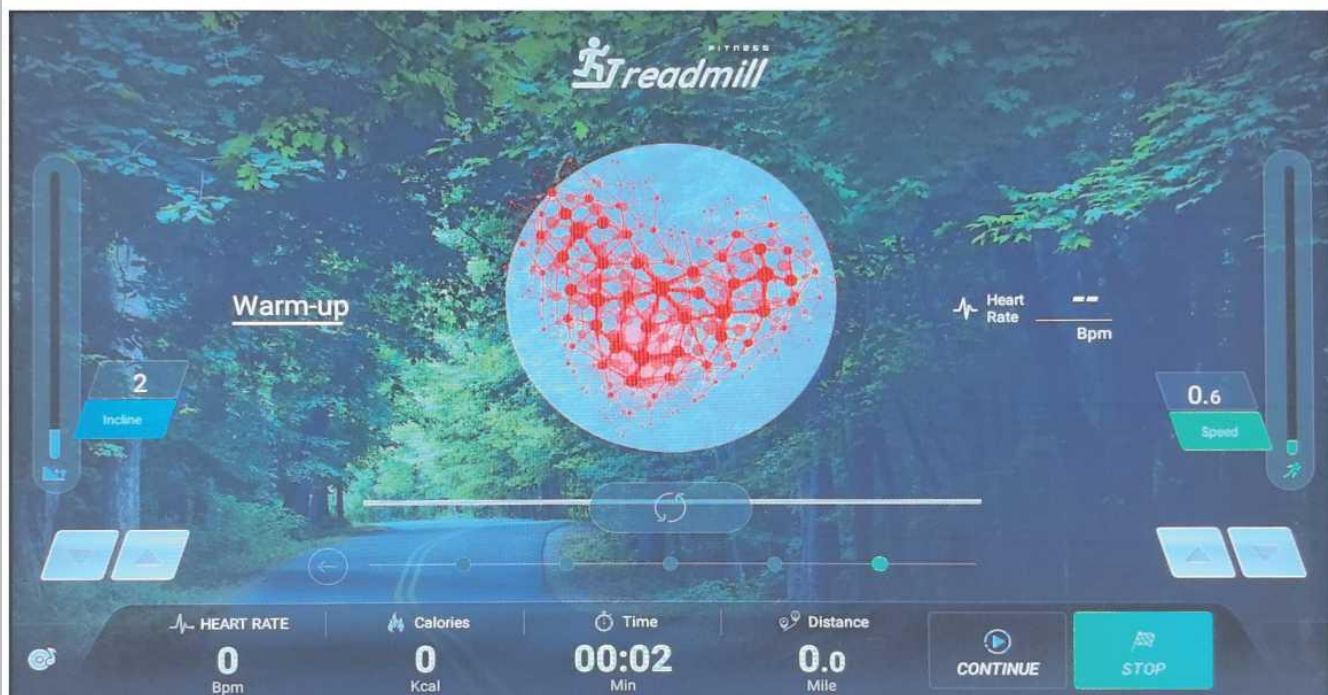

FIG. 9 Sports Page (Heart Rate Display Mode)
- 5) Hourly heart rate mode - display the heart rate change curve according to time, as shown in FIG. 9;